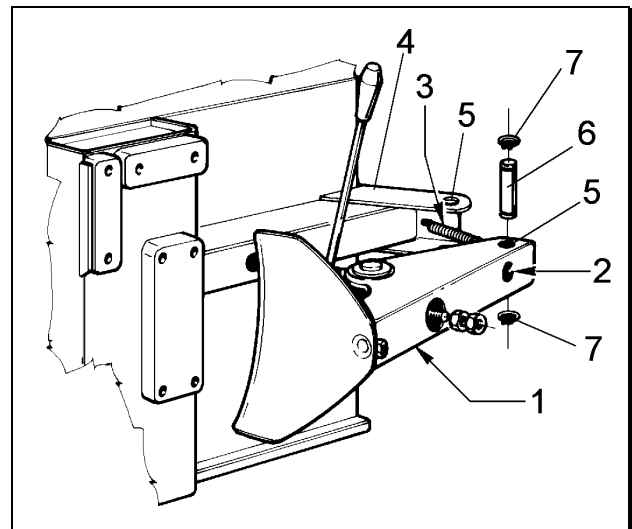

Fig.9
**I** Place the bead breaker arm #1 (Fig.9) inside arm support #4. Holes #5 for the arm and arm support must match.